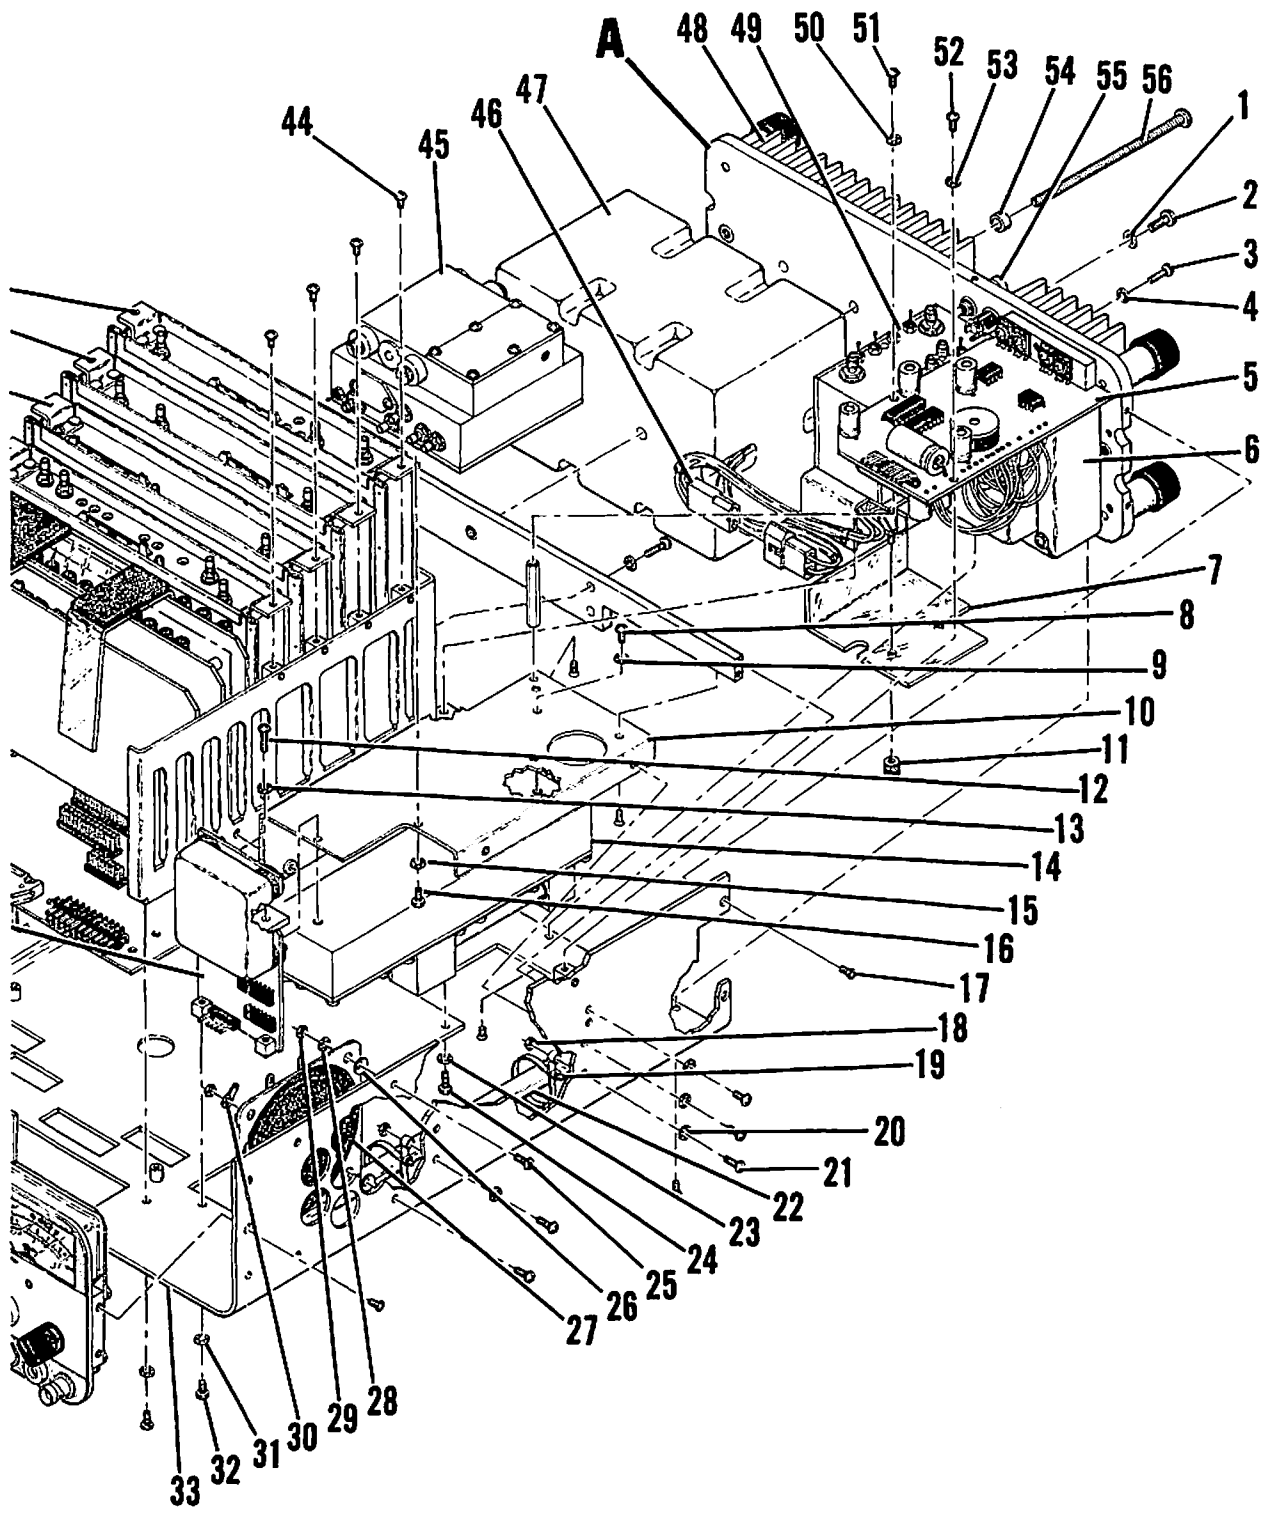

Figure 6-2 FM/AM-500A Composite Assembly
This section contains instructions that are necessary to remove and disassemble modules within the FM/AM-500A. Case removal (para. 6-2-1) is a prerequisite for all module removals. Most module removals are reflected in Figure 6-2, Composite Disassembly. However, due to the complexity of the composite, further details of module disassembly are shown on individual disassembly drawings for specific modules.
### A. Removal (Figure 6-2)
### A. Removal (Figure 6-2, Detail A)
##### A. Removal (Figure 6-2)
1. Remove Dual VCO (14) (paragraph 6-2-13).
2. Remove 1120 MHz Low Pass Filter (22) (paragraph 6-2-6).
3. Tag and unsolder wires from two terminals on Speaker (27).
4. Remove four nuts (29), three lock washers (28), one terminal lug (30), four compression washers (26) and four screws (25) attaching Speaker (27) to chassis (33). Lift Speaker from chassis.
#### 6-2-8 MOTHER BOARD (39) (Figure 6-2)
1. Remove Audio PC boards (42) (paragraph 6-2-9).
2. Remove Enclosed Modules (43) (paragraph 6-2-10).
3. Remove Front Panel (35) (paragraph 6-2-15).
4. Tag and unsolder wires in wire harness (not ribbon cables) from Mother Board (39).
5. Remove four screws (40) attaching Mother Board (39) to chassis (33).